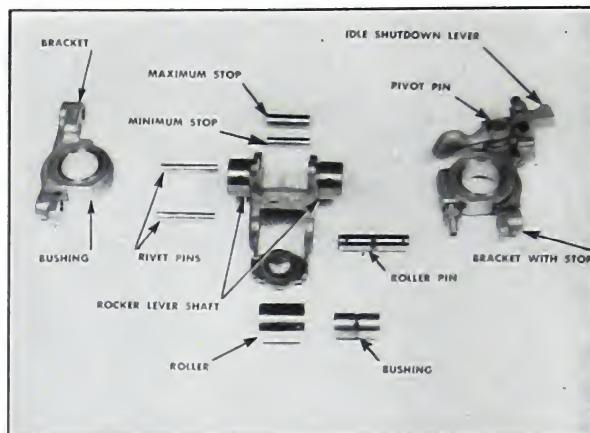

Fig. 5-239. Exploded view cam rocked lever assembly requires special jigs and line-boring equipment. Fig. 5-239.
2. Check the wear of the idle shut-down lever on the pivot pin. If the lever has excessive (.004 to .006) clearance, the pivot pin should be pressed out of the bracket and the pivot pin and hole checked. Replace new if the pivot pin is worn smaller than .309 or if the pivot pin hole is larger than .315. Fig. 5-239.
the shaft and bracket bushings. Fig. 5-239.
2. The cam rocker lever roller has a floating bushing: Compare its clearance with that of a new assembly. If it has more than .007 total clearance, it should be disassembled and each part should be checked for wear. See Fig. 5-239. Replace with new parts if worn beyond these limits: